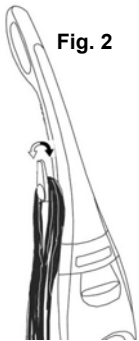

Fig. 2
3. Wrap the cord into place by wrapping it in a clockwise direction around the quick release cord holder and the lower cord holder. (Fig. 2)
4. Turn the quick release cord holder to the left or to the right to unwrap the power cord. (Fig. 2)